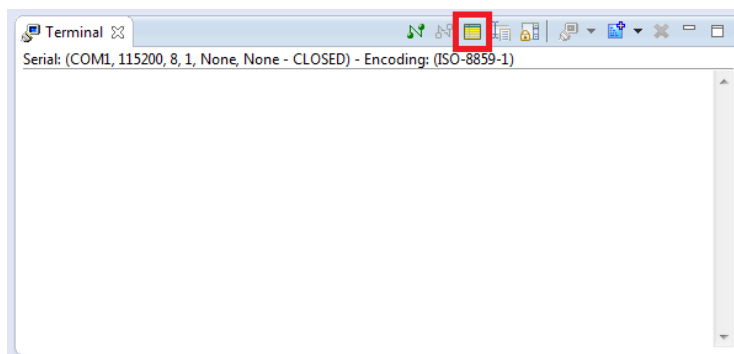

Figure 8-44. ARM DS-5 Serial Terminal
9. We will use the built-in serial terminal available in *ARM DS-5*. Go to “Window > Show View > Other... > Terminal > Terminal” to open *ARM DS-5*’s the built-in serial terminal. You should see the terminal shown in Figure 8-44.